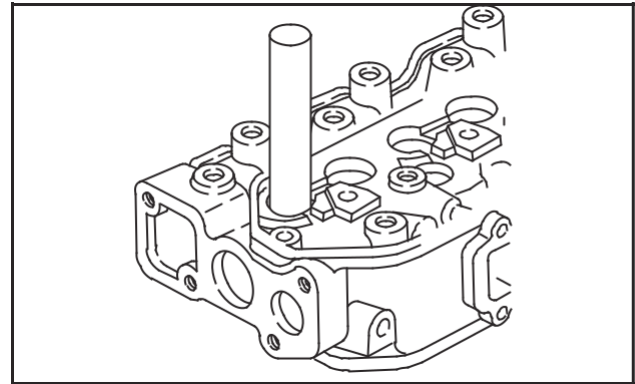

Fig. 19 – Installing Valve Guide Bushing
- Using bushing driver, Tool #19416, press in new valve guide bushing until tool bottoms on cylinder head, Fig. 19.